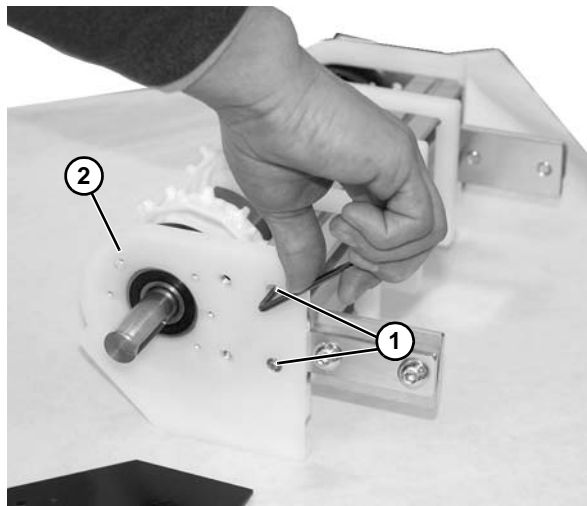

Figure 52
6. Remove two socket head screws (Figure 52, item 1) from bearing housing (Figure 52, item 2).